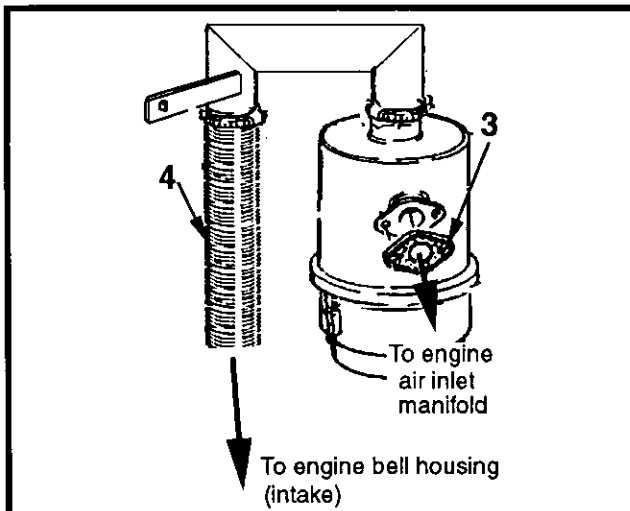

Figure 5-1 Air Cleaner - Engine Inlet Manifold Gasket
1. Ensure the connection (1, Figure 5-1) between the air cleaner and engine inlet manifold are tight and sealed.
2. Ensure the air duct gasket, (3, Figure 5-1) is free of defects which could result in dust leaking into the engine intake.
3. Ensure the flexible air duct , (4, Figure 5-1) is free of defects and is secure in the engine bell housing.